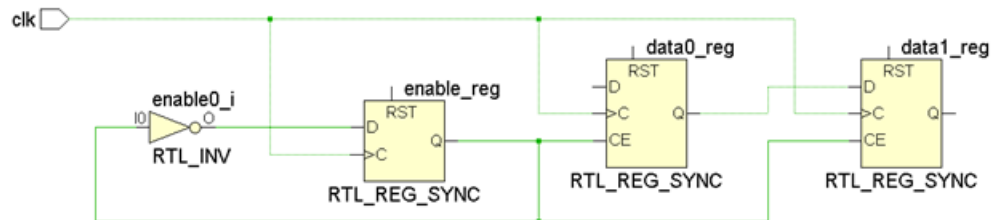

Figure 7-4: Registers Enabled Every Two Cycles
Figure 7-4, Registers Enabled Every Two Cycles, shows a path between two flip-flops that are enabled every two cycles. It is safe to define a Multicycle Path constraint on this path to indicate that: (1) the first edge of the destination clock is not active; and (2) only the second edge of the destination clock will capture a new data.
In the same example as Figure 7-4, Registers Enabled Every Two Cycles, after moving the setup check to the second capture edge, the hold check is automatically moved to the first capture edge (that is, one clock period before the setup check).